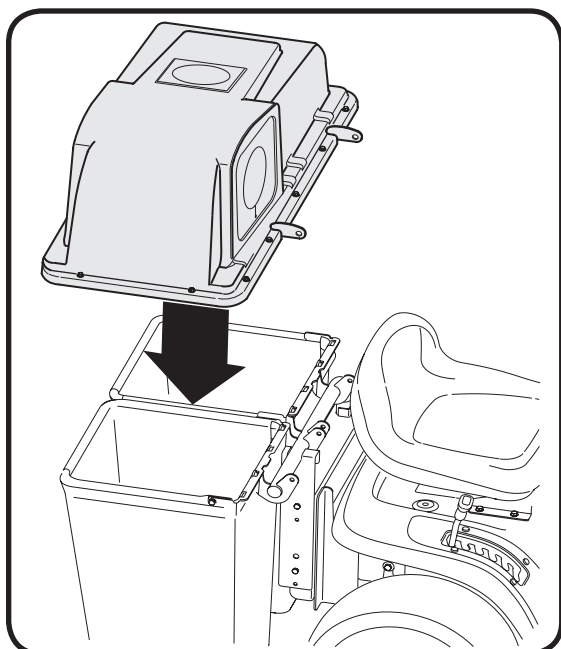

Figure 19
3. Place the grass bag cover on top of the grass bags and align the holes on the hinges of the grass bag cover with the corresponding holes on the support tube assembly. See Figure 19.